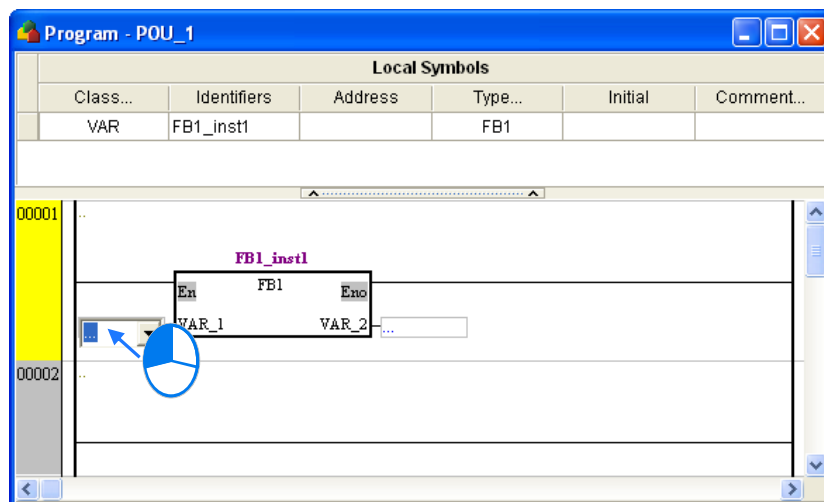

Figure 13-30 Clicking a node
- (1) After users click a pin of a function block in a POU, they can type text, as shown in figure 13-30.